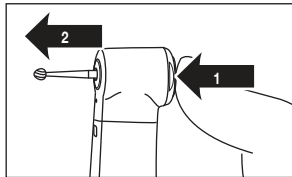

Fig. 6
- 2) Pull the bur from the head. (Fig.6)